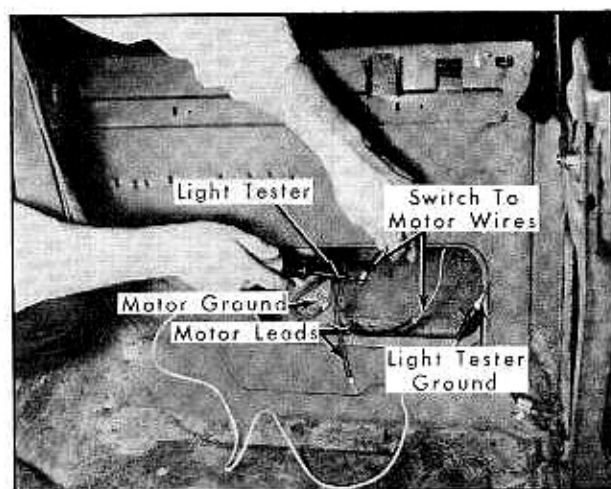

Fig. 3-99 Checking Folding Top Control Switch
2. Connect a light tester to the green-white tracer, switch to motor wire terminal, Fig. 3-99.
(73) Convertible Top Adjustment**a. Adjustment of Top at Front Roof Rail Corner Brace**